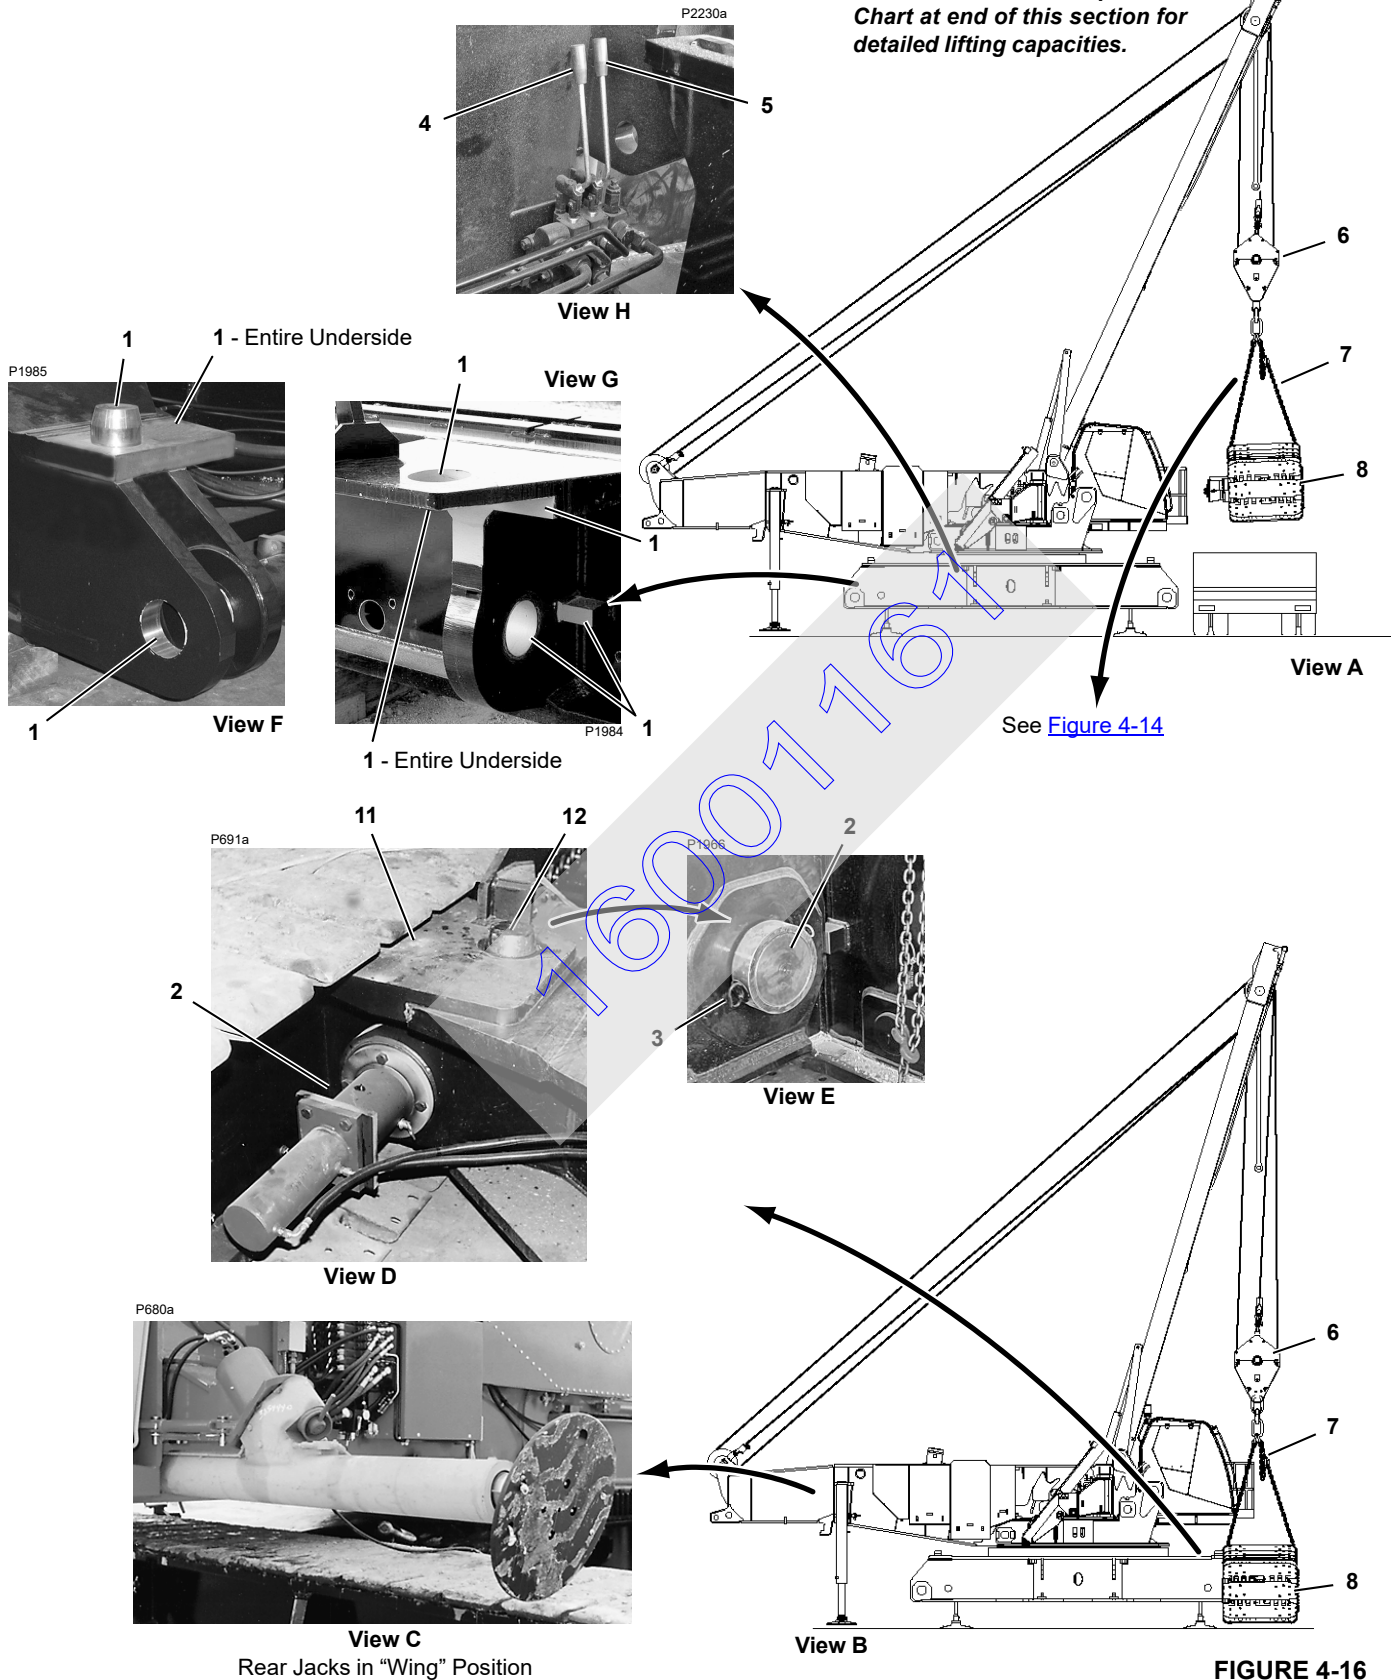

FIGURE 4-16
1. Thoroughly clean and grease all machined surfaces (1, Figure 4-16, Views F and G) on carbody and crawler.
2. Position trailer carrying crawler along desired side of crane (Figure 4-16, View A).
See Figure 4-16 for the remaining steps.
Legend for Figure 4-16 (quantities are for one crawler)
22. Extend rear jacks (15) to lift the crane off carbody pedestals next to first crawler (16, View A).
23. Remove pedestals (17) from next to first crawler and store.
24. Retract rear jacks (15) to lower crawler (16) to ground.
25. Remove chains (1, View F) from between crawler pads (2) and crawler lugs (3) (four places). Store for future use.
26. Rotate rear jacks to horizontal (wing position) as shown in Figure 4-16, View D. Rear jacks will hit installed crawler if this step is not done before swinging.